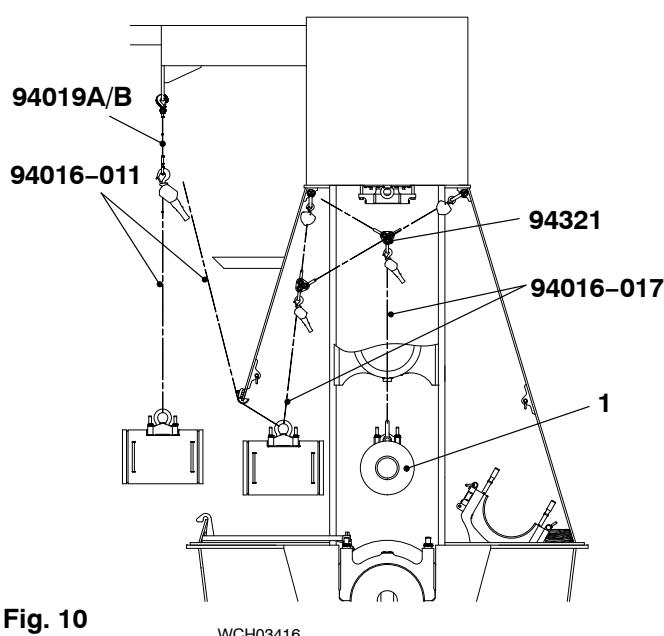
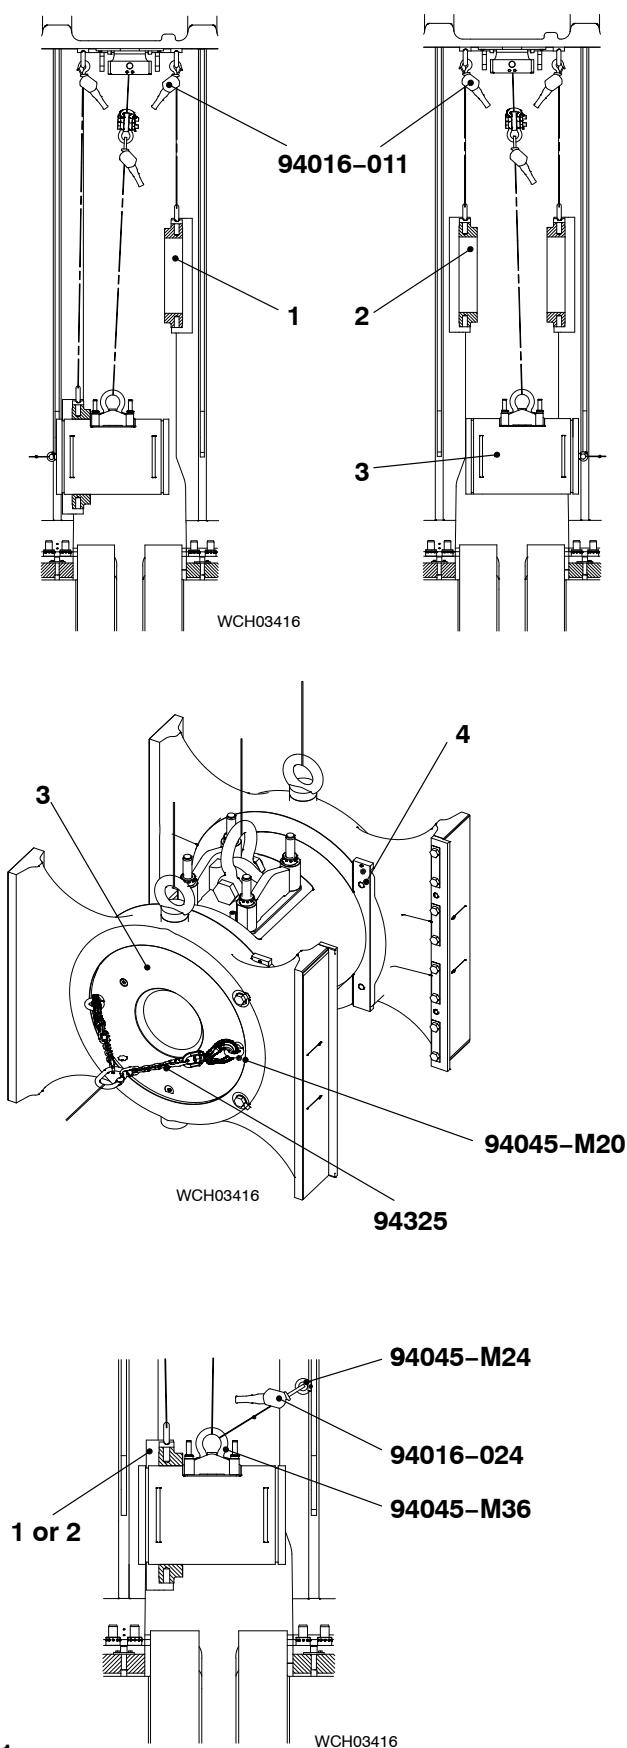

Fig. 10
Fig. 11
- 1) Clean the crosshead pin (1, Fig. 10) and the guide and bearing surfaces.
- 3) Apply bearing oil to the crosshead pin (1) and all guide and bearing surfaces.
- 4) Attach the two manual ratchets (94016-011, 94016-017) to the eye bolt on the crosshead pin (1).
- 5) Move the crosshead pin (1, Fig. 10) through the door frame as follows:
- 6) When the crosshead in (1) is in the column, remove the manual ratchet (94016-011).
- 9) Lower and align the guide shoe (2, Fig. 11) with the crosshead pin (3).
- 10) Attach the two eye bolts (94045-M20) and the chain (94325) to the crosshead pin (3).
- 13) Use the manual ratchet (94016-024) to pull the crosshead pin (3) into the guide shoe (2).
- 17) Use the manual ratchet (94016-024) to pull the crosshead pin (3) into the guide shoe (1).